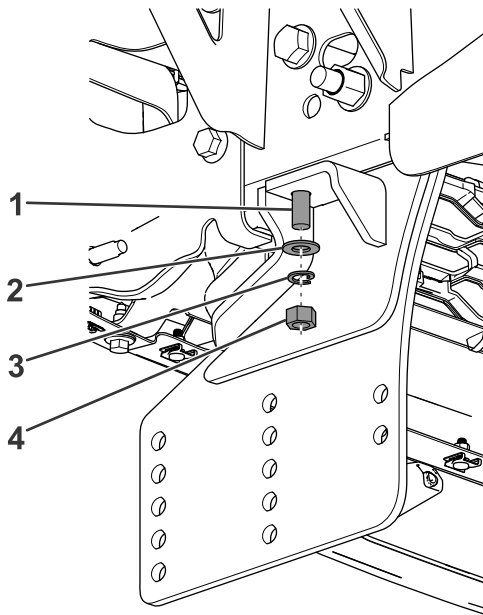

Figure 4
5. Loosely secure the bottom of the sideplate to the vehicle frame using a bolt (1/2 x 1-1/2 inches), washer, split lockwasher, and nut (Figure 4).